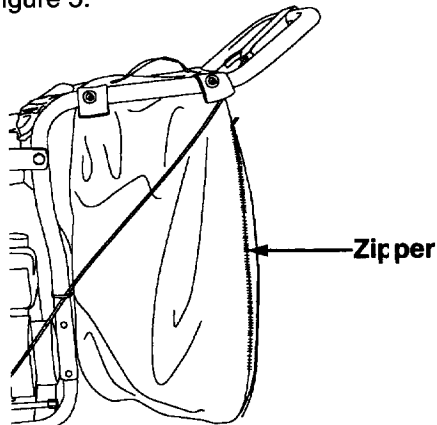

FIGURE 5.
**IMPORTANT:** Open the large zipper to empty the bag. Be certain the zipper is closed when operating the unit. See figure 5.